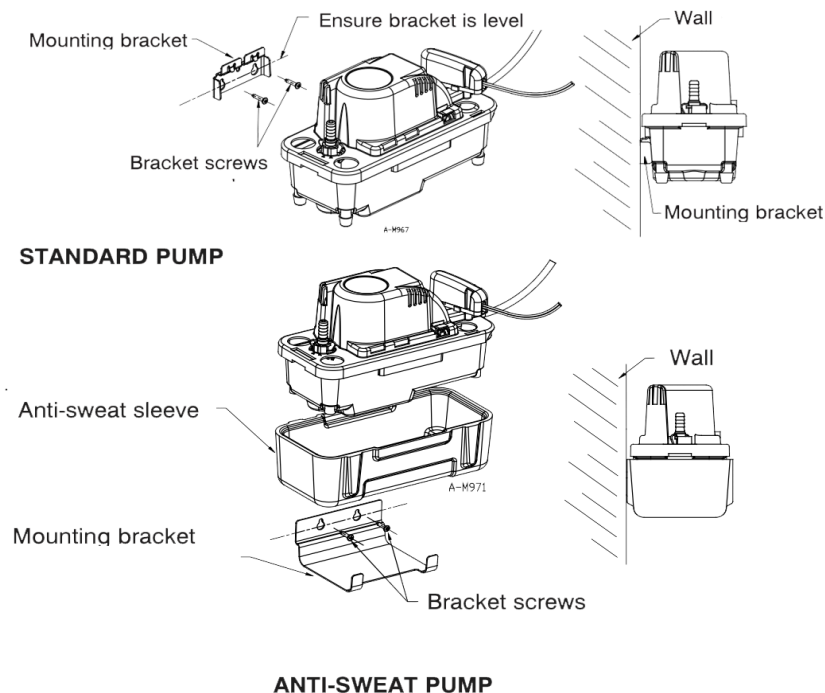

Figure 1
1. Carefully unpack the pump. Using the enclosed mounting bracket, mount the pump either on the side of the air conditioner/furnace or on a nearby wall. (See Figures 10 and 11 for pump dimensions.) The tank has a mounting slot on each side so it can be positioned either way (Figure 1). Ensure that the pump is level and the inlet is below the coil drain. Conduit fittings are not compatible with the plastic pump housing.